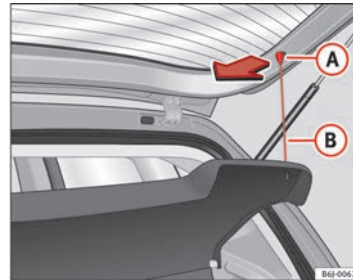

Fig. 89 Rear shelf
- Disengage the loops ⇒ Fig. 89 B from the retaining pins A